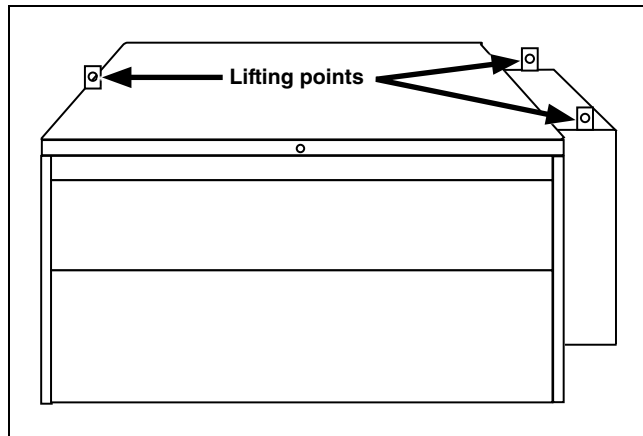
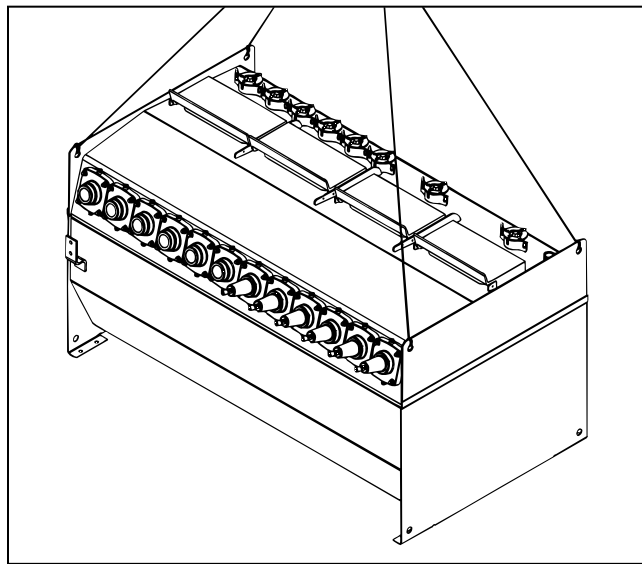
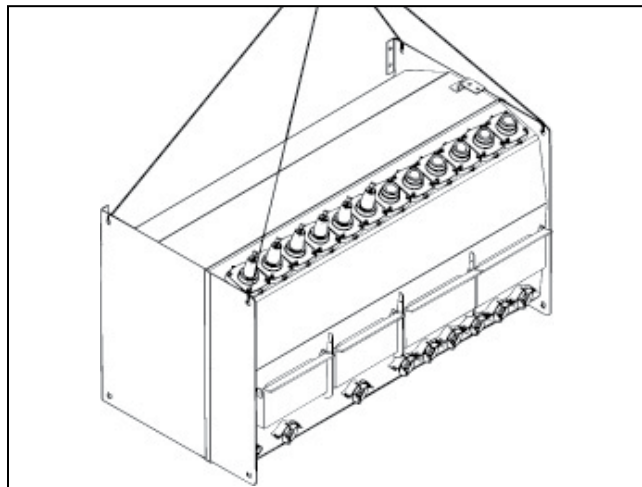
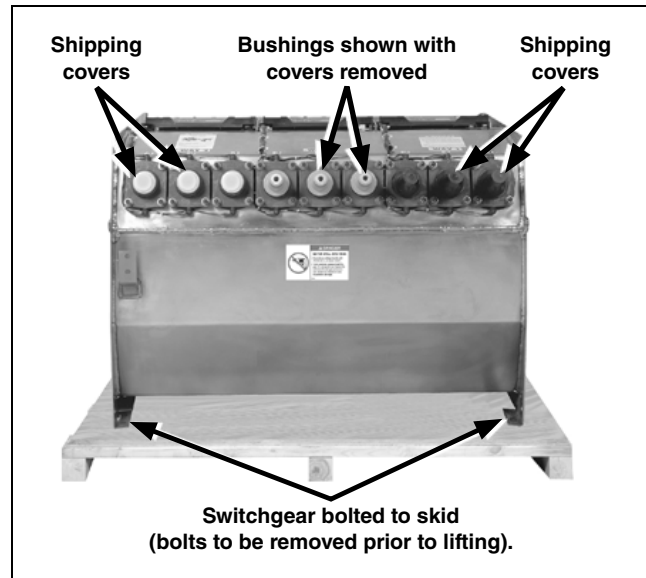

Figure 1. The enclosure for pad-mounted style.
Figure 2. A properly slung tank for the typical pad-mounted and UnderCover style.
Figure 3. A properly slung tank for the typical vault-mounted style.
Figure 11. A Vista switchgear tank bolted to a skid for shipment (Manual unit shown for illustration purposes.)
STEP 1. Remove and retain the anchor brackets tie wrapped to the enclosure or tank grounding pad. Use 6-foot (183-cm) or longer hoist slings of equal length to prevent damage to the enclosure or tank during lifting. (Four-foot (122-cm) hoist slings are acceptable for two-way and three-way enclosures and tanks.) See Figure 1, Figure 2, Figure 3 on this page and Figure 4, Figure 5, and Figure 6 on page 9.
- STEP 2.** Unbolt the tank from the skid and lift it above the mounting pad, observing the precautions given in the “Handling” section on page 8. See Figure 11. Use a four-point lifting scheme to properly balance the gear. See Figure 2 on page 8.